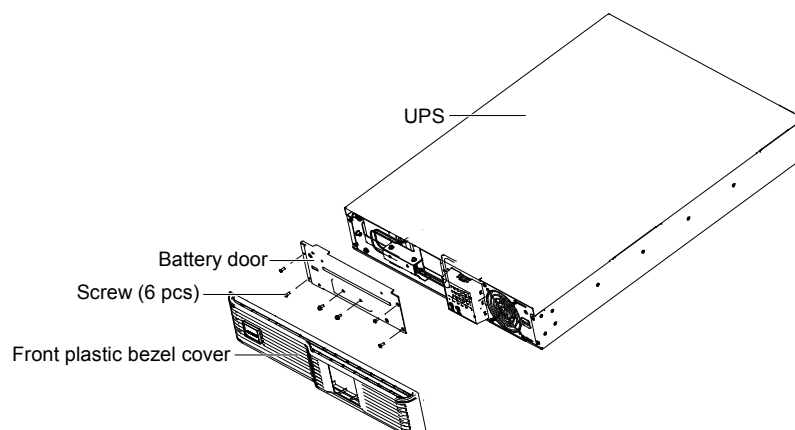

Figure 6-1 Removing the front plastic bezel cover and battery door
Step 2: Loosen and remove the six screws on the battery door, as shown in Figure 6-1. Lay the battery door aside for reassembly.